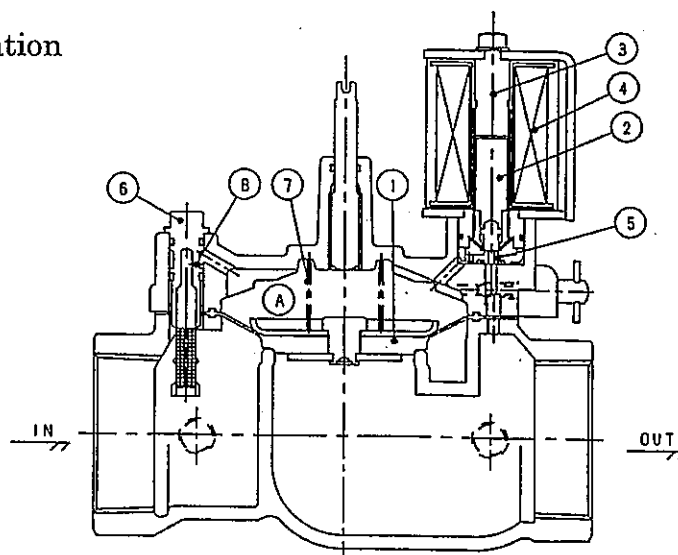

Fig. 19.
When the power to the coil ④ is stopped, the plunger ② separates from the core assembly ③ by the spring force, and the pilot valve seat ⑤ closes. The fluid pressure is applied on the upper ① chamber of the diaphragm assembly via the bleed orifice ⑥ in the filter assembly ⑥. The diaphragm assembly lowers due to the pressure difference at the top and bottom of the diaphragm assembly and the force of spring ⑦, and maintains the water stopping state. (Refer to Fig. 19)